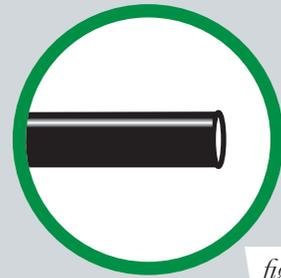

fig. 9
When cutting air lines, use a sharp knife or a hose cutter and make clean, square cuts (Fig. 9). Do not use scissors or wire cutters because these tools may deform the air line, causing it to leak around fittings. Do not cut the lines at an angle.
- a. Check the air line connection by deflating the spring and removing the line by pulling the collar against the fitting and pulling firmly on the air line. Trim 1" off the end of the air line. Be sure the cut is clean and square (see Fig. 9). Reinsert the air line into the push-to-connect fitting.